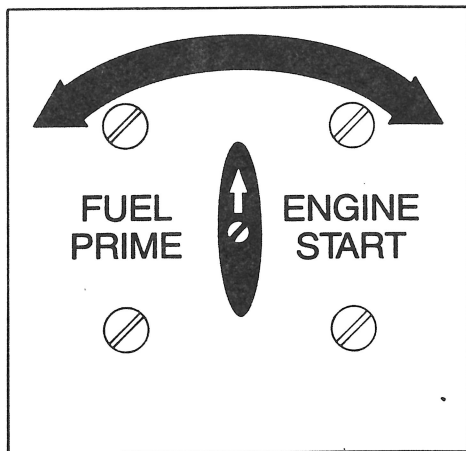

Fig. 2-24 Fuel Prime/Engine Start (FP/ES) Switch
8. Fuel Prime/Engine Start Switch (See Fig. 2-24)
This three position rotary switch, Fig. 2-24, is located in a junction box mounted on the equipment rack. The functions of the three positions are as follows: